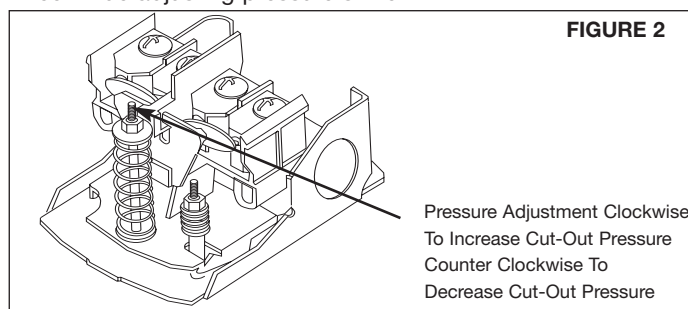

FIGURE 2
3. If there is a momentary pause in the water flow from the time the WELL-X-TROL is emptied and the pump starts, adjust pump cut-in setting clockwise slightly (see figure 2).